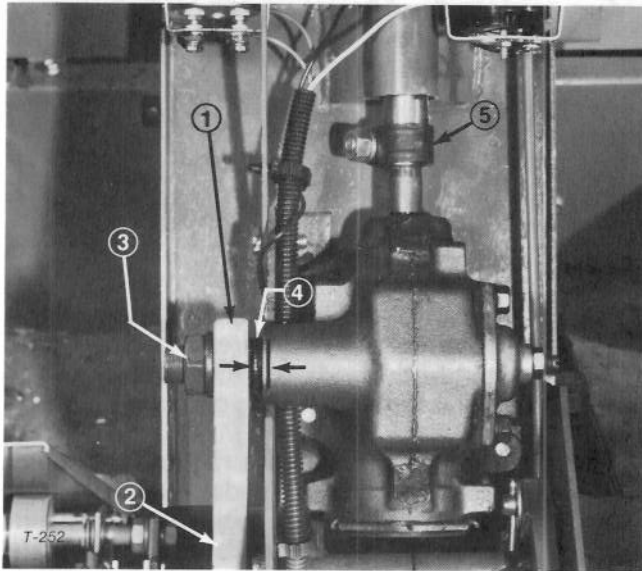

Figure 33
2. Mark steering arm and steering gear shaft (Fig. 33) so arm can be installed in the same place when parts are assembled.
3. Remove cotter pin and slotted nut holding steering control rod and steering arm together (Fig. 33). Separate ball socket at end of control rod from steering arm.
4. Remove large nut and lockwasher holding steering arm on gear box shaft (Fig. 33). Use a puller to remove the arm from the shaft.
5. Loosen steering-clamp carriage bolt and lock-nut (Fig. 33) until clamp can be moved.
3. Slide steering arm onto steering shaft and ensure the alignment marks — made when parts were removed — are in line. Secure arm on shaft with lockwasher and large nut (Fig. 33). Tighten nut until inside of arm is 5/8 in. (16 mm) from the steering gear, which should allow clearance for the steering linkage.
4. Slide ball socket at end of steering control rod through steering arm. Secure parts together with slotted nut and cotter pin (Fig. 33).